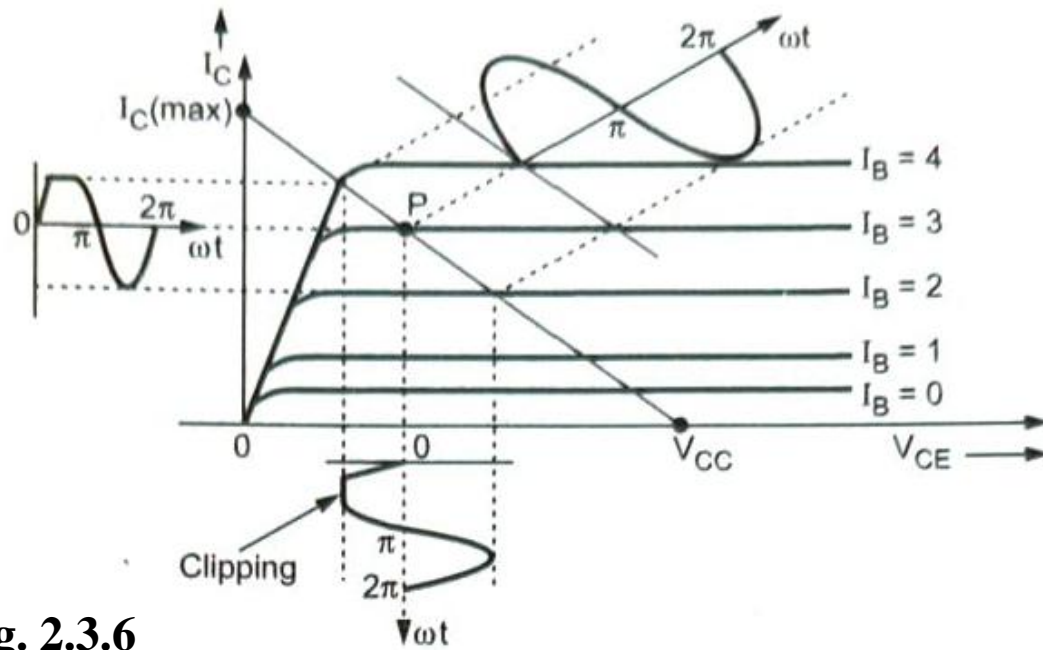

Fig. 2.3.6
- In Fig 2.3.6: Biasing circuit is designed to fix a Q point at point P, the collector current is clipped at the Positive half cycle.